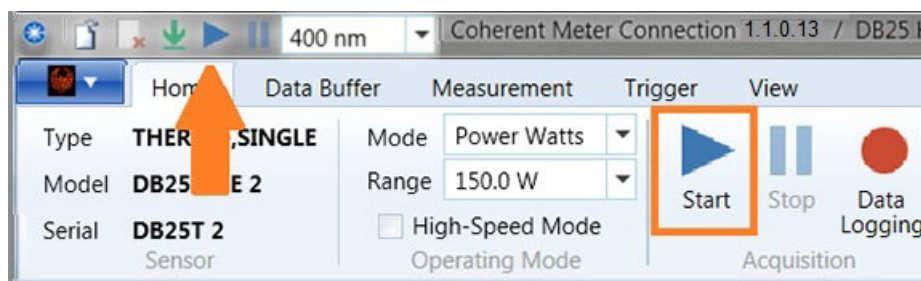

Figure 8-9. Stop Data Collection
- b.) To end data collection, click the **Stop** icon in the toolbar or the Home tab, shown in Figure 8-9.